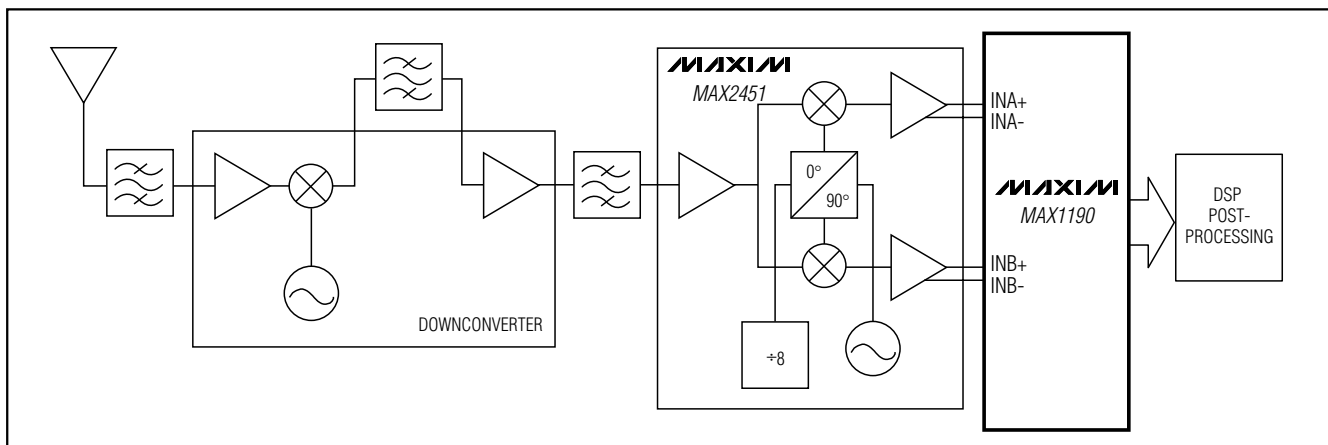

Figure 10. Typical QAM Application Using the MAX1190
A frequently used modulation technique in digital communications applications is quadrature amplitude modulation (QAM). Typically found in spread-spectrum-based systems, a QAM signal represents a carrier frequency modulated in both amplitude and phase. At the transmitter, modulating the baseband signal with quadrature outputs, a local oscillator followed by subsequent upconversion can generate the QAM signal. The result is an in-phase (I) and a quadrature (Q) carrier component, where the Q component is 90° phase shifted with respect to the in-phase component. At the receiver, the QAM signal is divided down into its I and Q components, essentially representing the modulation process reversed. Figure 10 displays the demodulation process performed in the analog domain, using the dual-matched 3.3V, 10-bit ADC MAX1190 and the MAX2451 quadrature demodulator to recover and digitize the I and Q baseband signals. Before being digitized by the